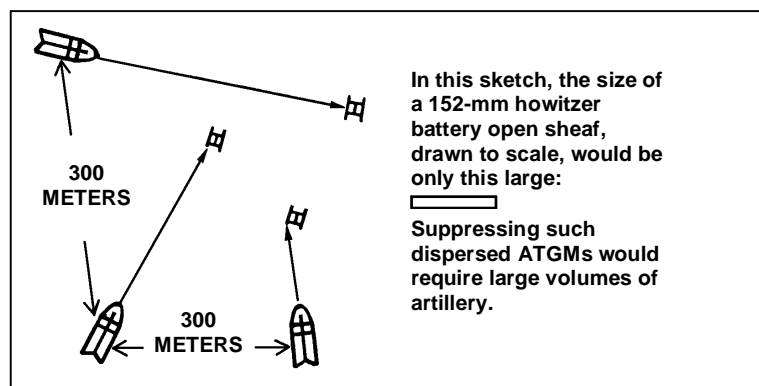

Figure 6. Provide for dispersion.
5. Provide for dispersion. If the section leader can control the fires of both TOW squads, he should separate them at least 300 meters (either laterally or in depth). This distance prevents squads from being suppressed at the same time by the fires of a single volley of artillery from one enemy battery. This separation depends upon the terrain and the section leader's capability to control the fire and movement of the squads (Figure 6).